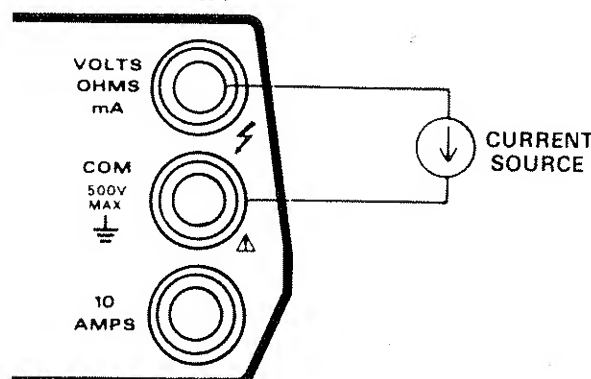

Figure 2-6. Current Measurements up to 2000mA
- D. Connect the test leads to the current source as shown in Figure 2-6. If an overrange indication is displayed select a higher range until a normal reading is shown. Use the lowest possible range for the best accuracy.